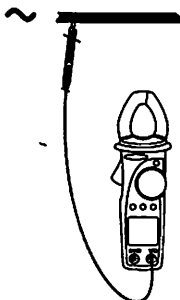
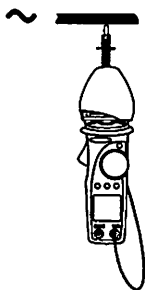

Fig. 18: Voltage detection
Fig. 19: Voltage detection with rubber cup
3. Connect the red terminal to the L1 phase conductor (see Fig. 18, 1st measurement). If necessary, use the rubber cup to insert red test lead (see Fig. 19, 1st measurement).